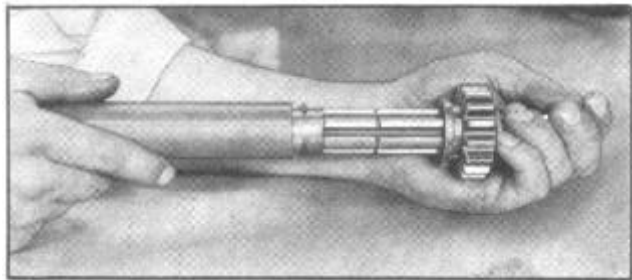

Figure 13--Installing Thrust Washer Retainer Using J-781 Countershaft Retainer Ring Replacer
9. Install reverse gear shifter (38) in the lever.
10. Install low and reverse shifter fork shaft (51) in the case and assemble the low and reverse shifter fork assembly (49). Lock shift securely in position with Allen set screw using wrench J-785.
11. Install low and reverse intermediate lever (46) and stud (47) and draw up stud nut securely. A copper washer must be placed under the stud nut.
13. Install countershaft thrust washer retainer (27) on countershaft using ring replacer J-781 as shown in Figure 13.